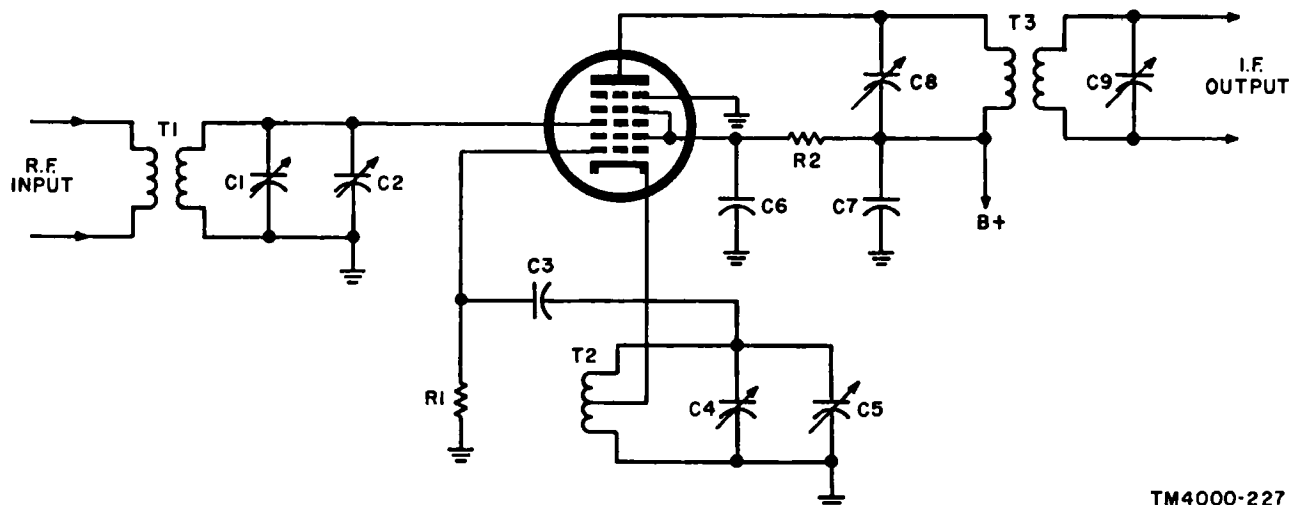

Figure 54. Pentagrid converter circuit.
b. In a pentagrid converter stage (fig. 54), the oscillator anode is also the mixer screen grid. Therefore, if the screen-grid voltage is absent, there is no voltage at the oscillator anode. The signals are mixed in the electron stream of the tube.